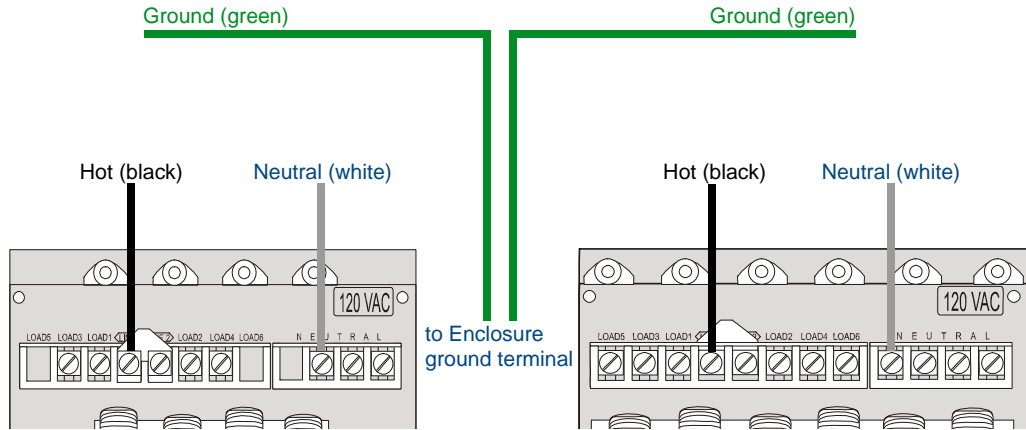

FIG. 8 RDD-DM4 and RDD-DM6 (as examples only) high-voltage, single-phase power connections for line input (hot), neutral, and ground.
3. Mark the four mounting holes according to the dimensions shown in Figure 8.
Follow these steps to wire high-voltage (120 VAC, 240 VAC, and 277 VAC), single-phase power connections (FIG. 8) to any of the AMX Lighting modules.